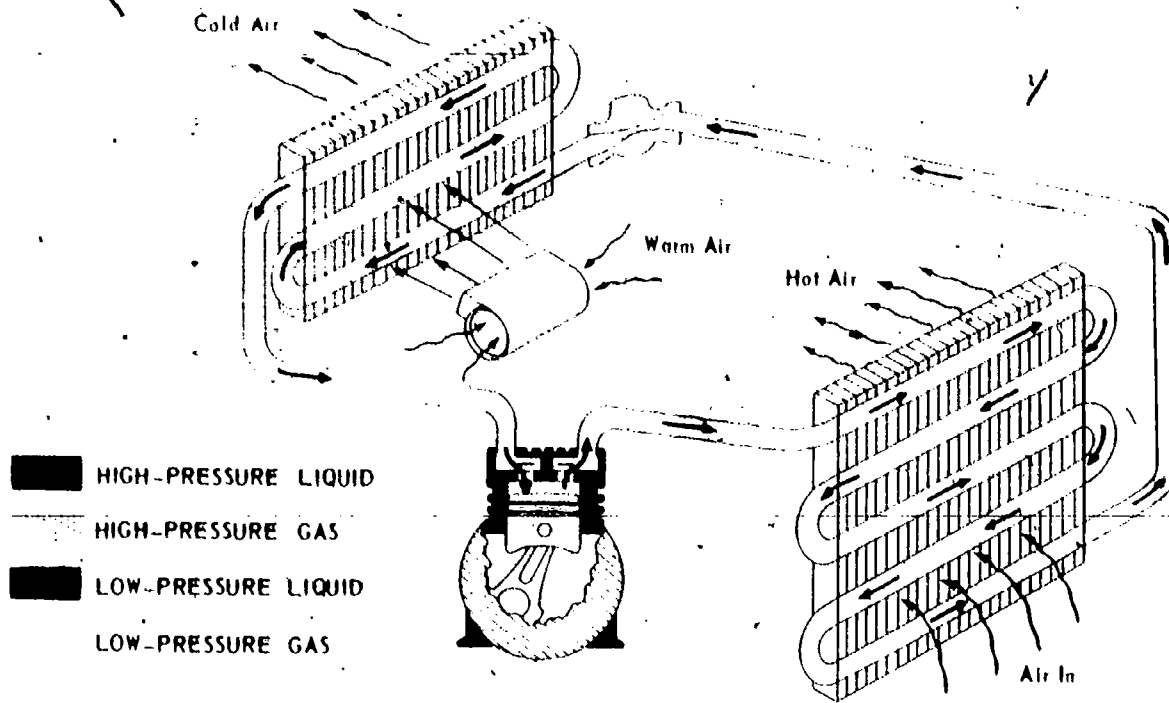

Fig. 37 — Diagram Of Basic Air Conditioning System (for Test Question No. 1)
1. Mark up Fig. 37, "Diagram of Basic Air Conditioning System":